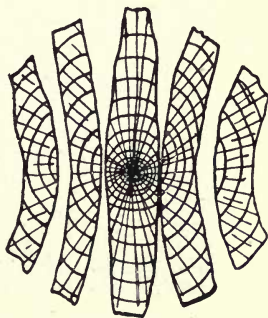

FIG. 194.—Result of Shrinkage.
**476. Shrinkage of Wood—Checks.**—Water exists in wood in two conditions: (1) as water absorbed in the cell walls, and (2) as free water contained in the cell cavities. When wood contains just enough water to saturate the cell walls, it is said to be at the “fiber saturation point.” Any water in excess of this which the wood may contain is in the form of free water in the cell cavities. The removal of the free water has no apparent effect upon the properties of the wood except to reduce its weight, but as soon as any of the absorbed water is removed the wood begins to shrink. Shrinkage (Fig. 194) is due to the contraction of the cell walls, and sets up stresses which tend to cause the wood to “check” or crack. “Check” is a term used to denote cracks extending radially and following the pith rays; lumber splits lengthwise only very slightly.